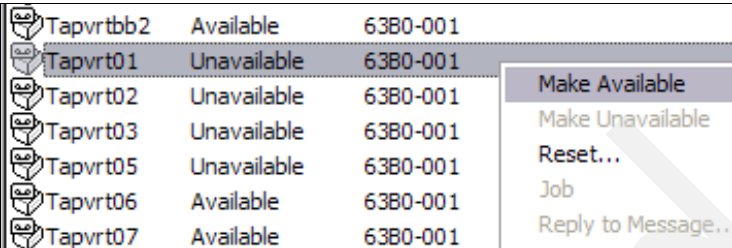

Figure 8-29 Make tape drive available
1. First, make the virtual tape drive available, as shown in Figure 8-29.